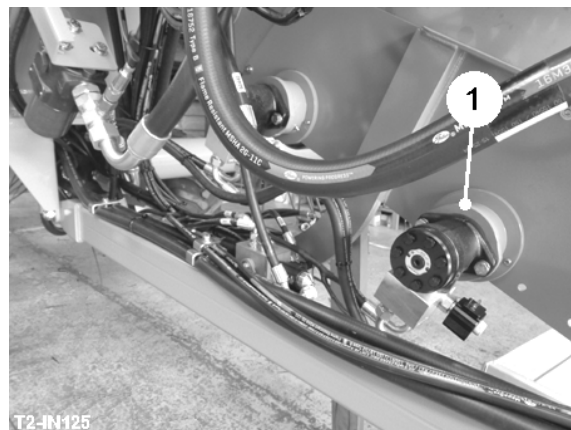

Fig 10
Three rotary agitator shafts (item 1, fig 10) are fitted inside the sieving web. These are designed to separate the soil from the crop as it is elevated up the web. Drive for each agitator shaft is by a directly coupled hydraulic motor fitted with a bypass valve.